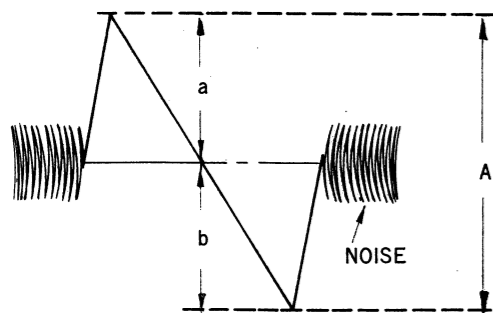

Fig. 3-6 "S" Curve Response
- (3) Turn the top core of T201 with the hexagonal-head alignment tool to obtain an "S" curve response as shown in Fig. 3-6.
- (4) Turn the bottom core of T201 to obtain maximum response.
- (5) Turn the top core of T201 to equalize negative and positive peakes as shown in Fig. 3-6.